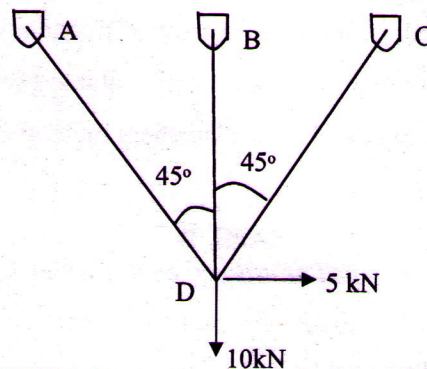

Fig. 4.
- 6 a) Explain how the effect of calibration error or temperature changes is considered in the analysis of trusses by matrix displacement method (5)
- b) Find the forces in the members of the truss loaded as shown in Fig.4. using stiffness method. Take axial rigidity $AE = \text{unity}$ for all members. (10)